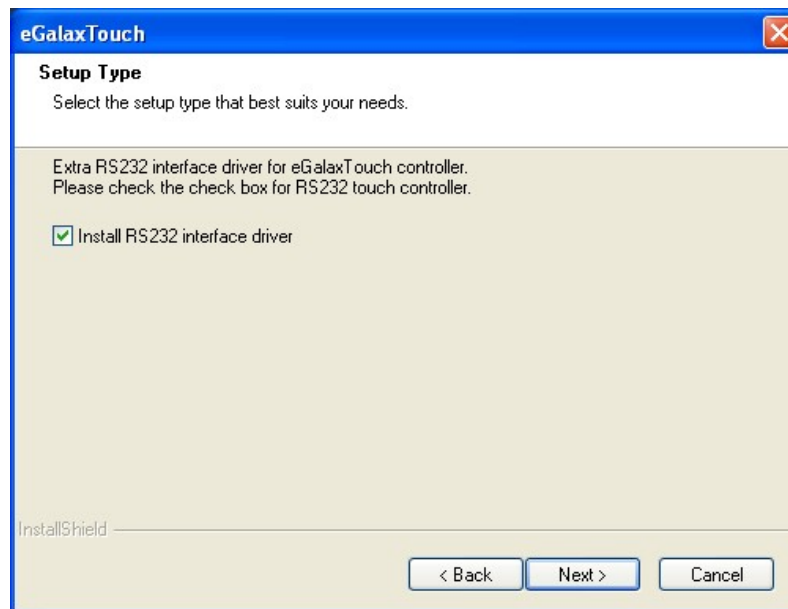

Figure 6-37: Setup Type – RS-232 Interface
Step 5: The screen in **Figure 6-37** appears. Check the box and click **Next** to continue.